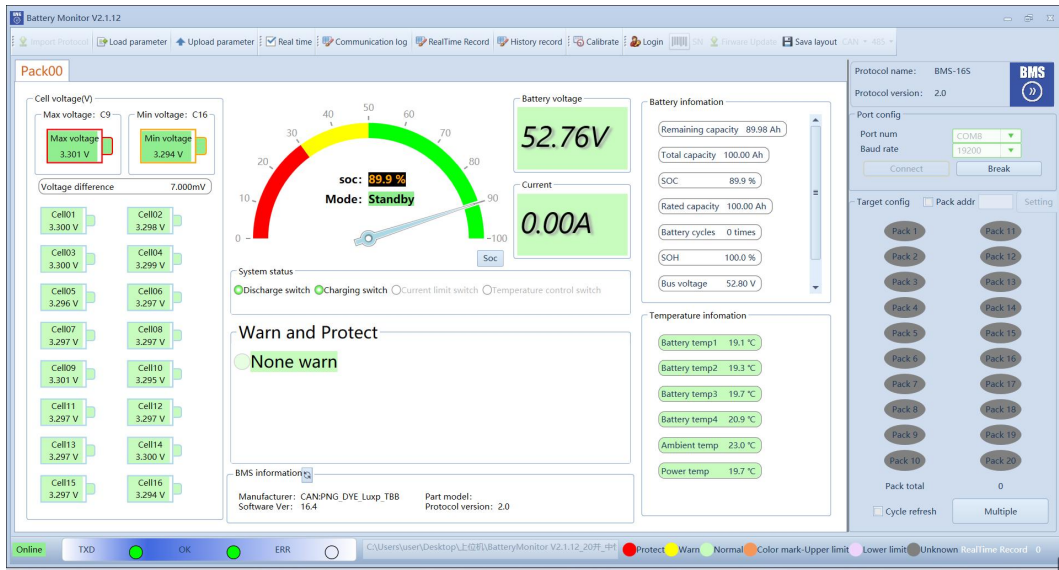

Figure 4-2
4) After a successful connection, the upper monitor will displays the battery data,Figure 4-2